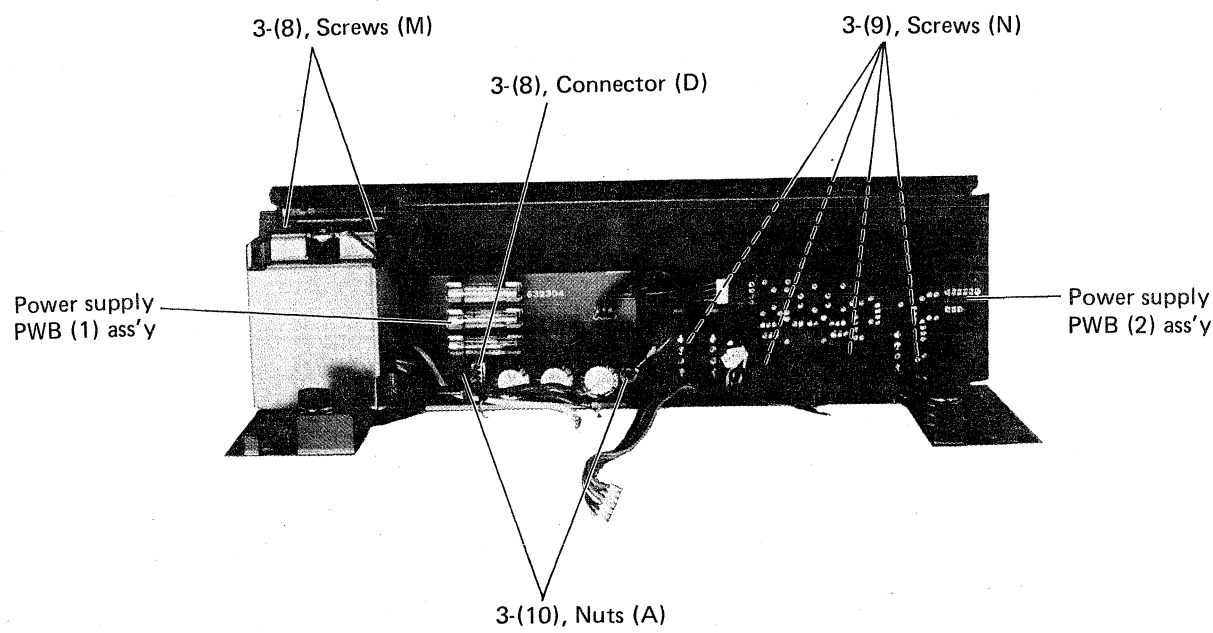

Fig. 9
- (8) Dismount power transformer. (See fig. 9)
- (10) Remove 2 pcs. of nuts (A) so that power supply circuit (1) is dismantled. (See fig. 9)